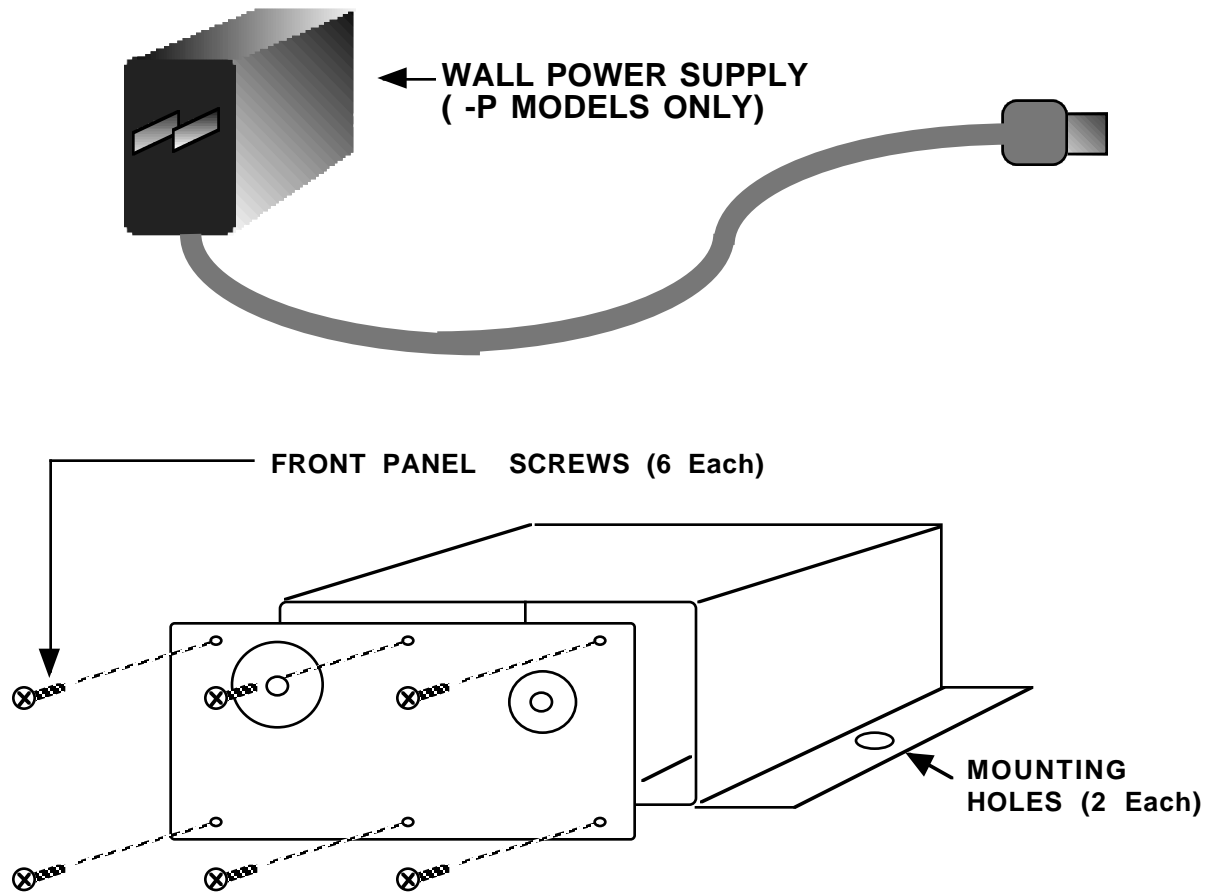
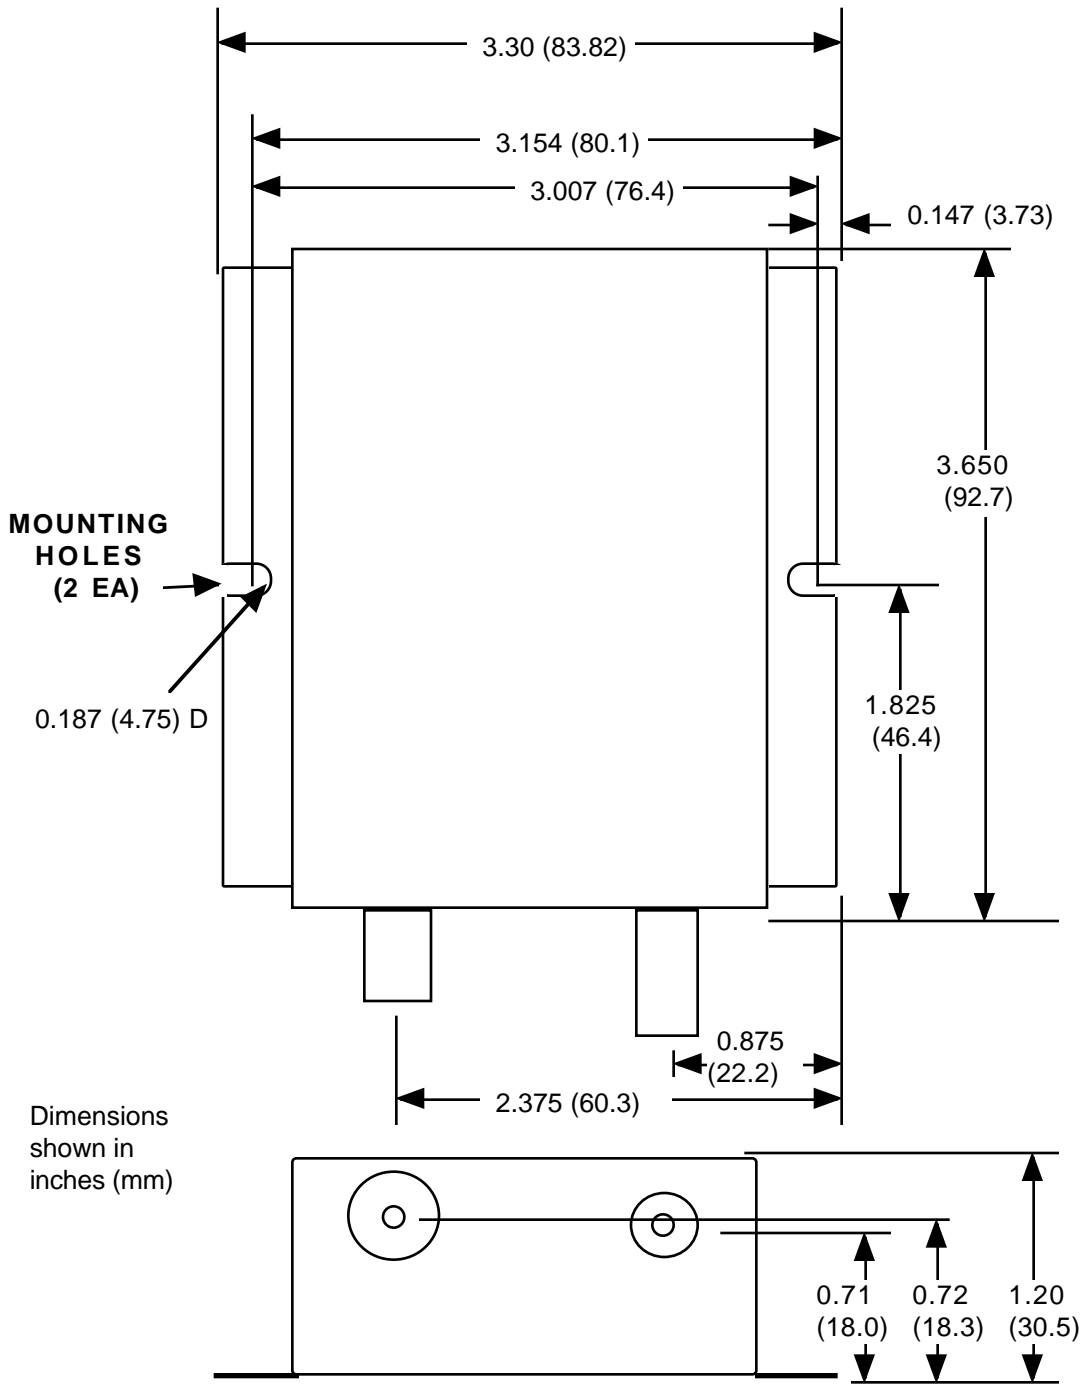

FIGURE 2.1 2006-11, -12 ASSEMBLY DRAWING
Figure 2.2 2006-1X, -2X Package Dimensions
2.1 Mechanical - The 2006-11, -12 are packaged in an aluminum chassis. The unit can be mounted to a panel using the 2 holes at the bottom side flange. The unit derives +DC (+14 to +20 VDC) from the RF out center conductor or +15 VDC from a wall mount power supply for the -P models. (See Figure 2.1 and Figure 2.2).
(See Figure 2.1 and Figure 2.2)